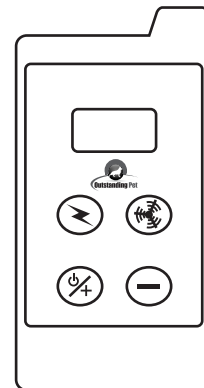

figure 7 – Remote Transmitter
1. Hold the $\left(\frac{\text{off}}{4}\right)$ button (*figure 7*) for three seconds to power up the Remote Transmitter (the LCD will turn on to indicate a successful power up).